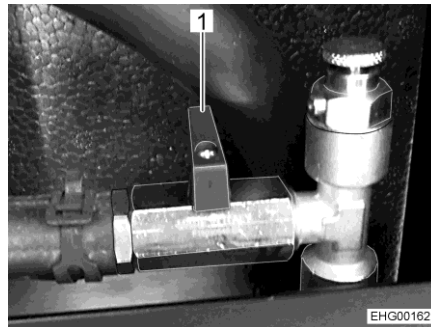

Fig. 186 Spherical valve (closed)
- Set the lever (Fig. 186,1) at right angles to the pipe.